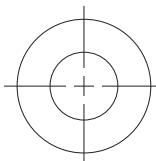

Figure 2
4. If supplied place inner spring guide(s) over each gland bolt (stud) allowing it to rest on flat washer. As shown in Figure 2.